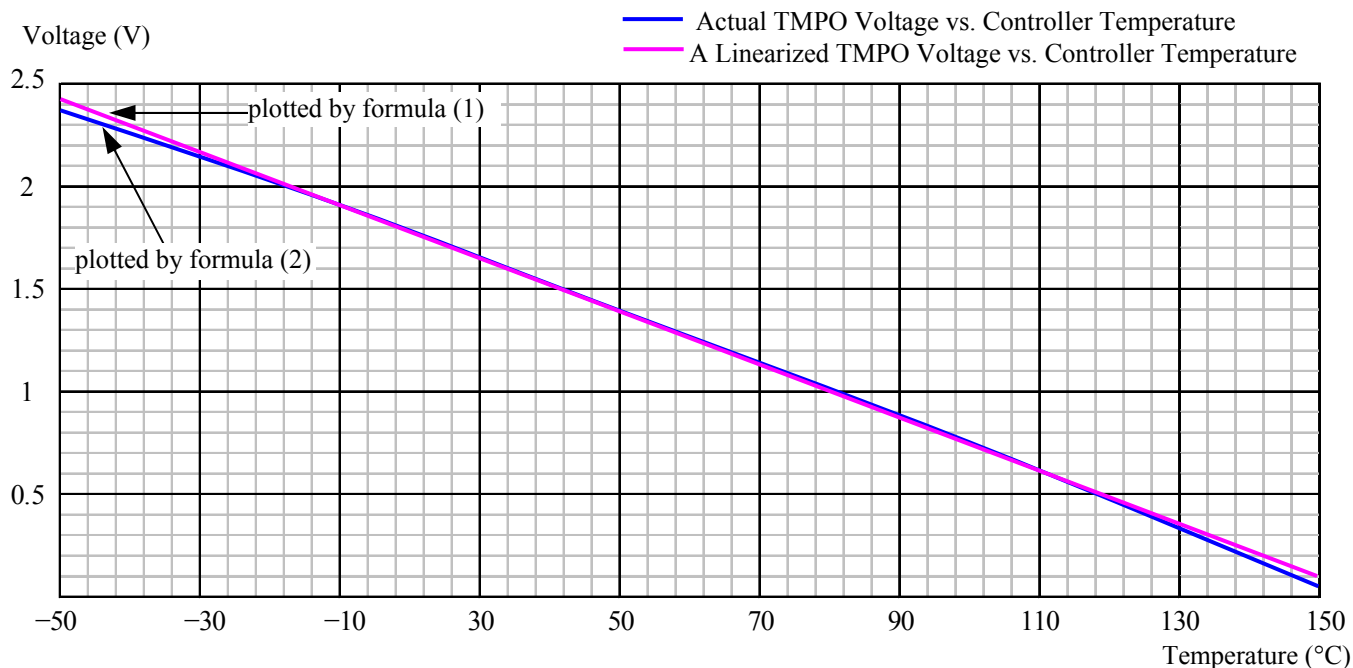

Figure 14. Controller Internal Temperature vs. TMPO Voltage
Within the most commonly used temperature range of between 0°C to 100°C, the maximum error occurs at about 1.5V, at which the temperature error between the calculated data by using the formula (1) and the approximated data obtained by using the linear equation (2) is about 0.4°C, with the linear data being a little lower. The curves of the 2 sets of the data are plotted in Figure 14.